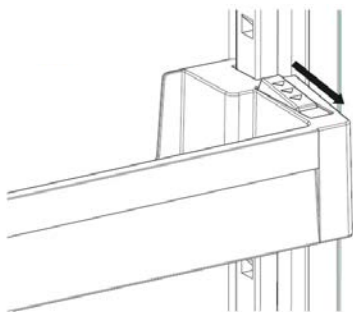

Fig. 1
- To adjust the door compartment, hold the "levers" (buttons) so the arrow is towards you and slide (see Fig. 1).
- To completely remove the door compartment, hold the "levers" so the arrow is towards you and slide (see Fig. 1).